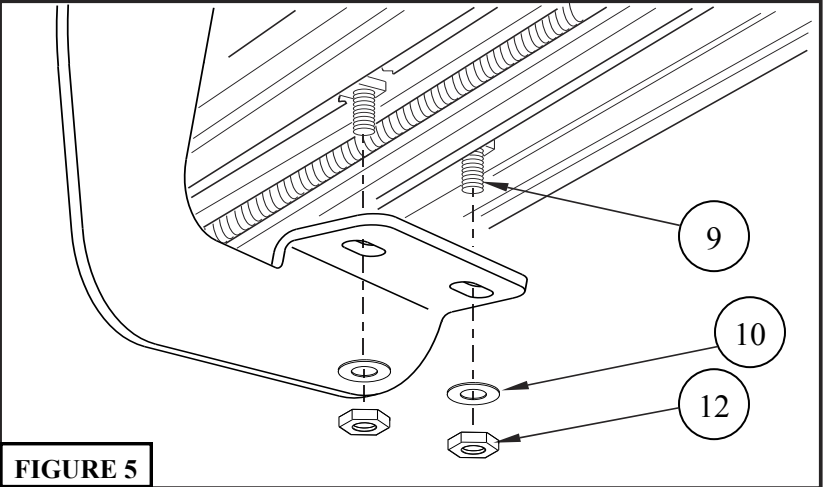

FIGURE 5
5. Attach board to brackets as shown. Make sure board and brackets are properly aligned and tighten fasteners. Recommended torque values are 10 FT.LBS. for M8 square head fasteners and 18 FT.LBS. for M8 hex head bolt. SEE **FIGURE 5**.